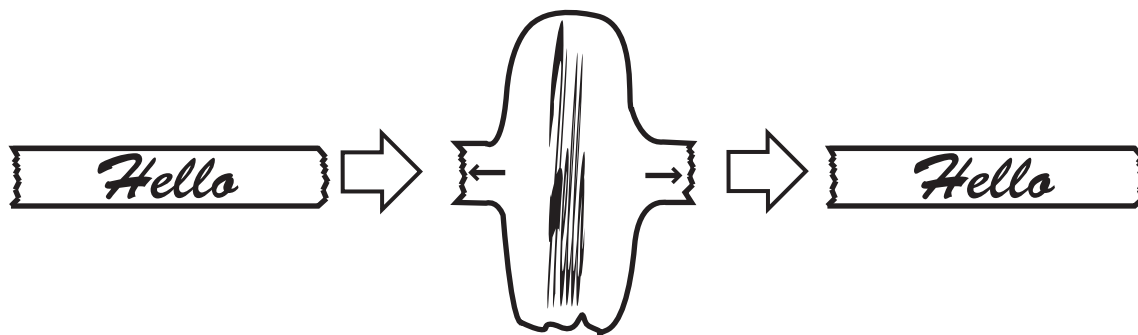

Figure 4.
10. Hand the distorted tape to a friend, and have the friend pull the two ends apart (see Figure 4).